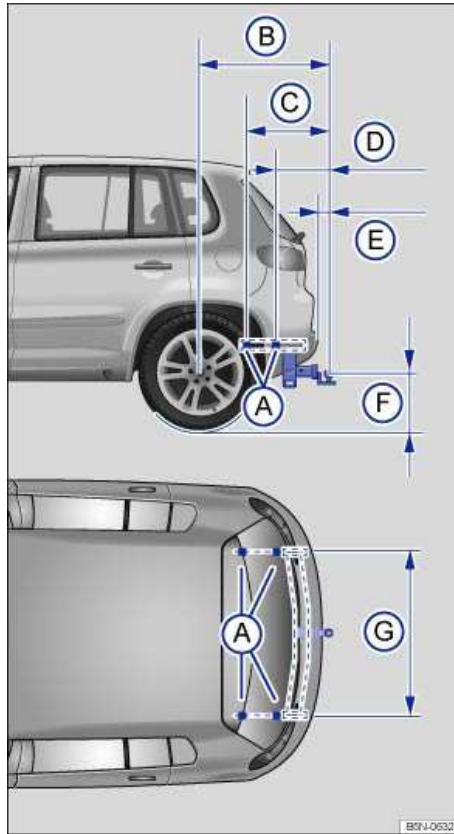

Fig. 112 Dimensions and attachment points for retrofitting a trailer hitch.
⇒ fig. 112 (F) be less than the specified minimum. This minimum height must be present even when the vehicle is fully loaded and subject to the maximum tongue weight.
**Distance dimensions ⇒ fig. 112:**
- (A) Attachment points
- (B) 38 inch (966 mm)
- (C)  $23\frac{7}{10}$  inch (602 mm)
- (D) at least 14 inch (355 mm)
- (E)  $2\frac{14}{25}$  inch (min. 65 mm)
- (F) from 134/5 inch to 161/2 inch (350 - 420 mm)
- (G) 412/5 inch (1051 mm)